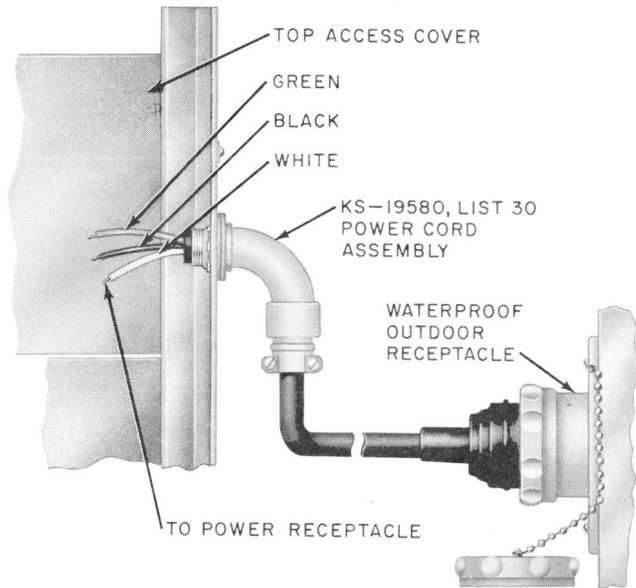

Fig. 19—KS-19580, List 30 Power Cord Assembly Overhead Entrance
3.12 For overhead entrance with plug-in features, use KS-19580, List 30 power cord assembly and install per Fig. 19.